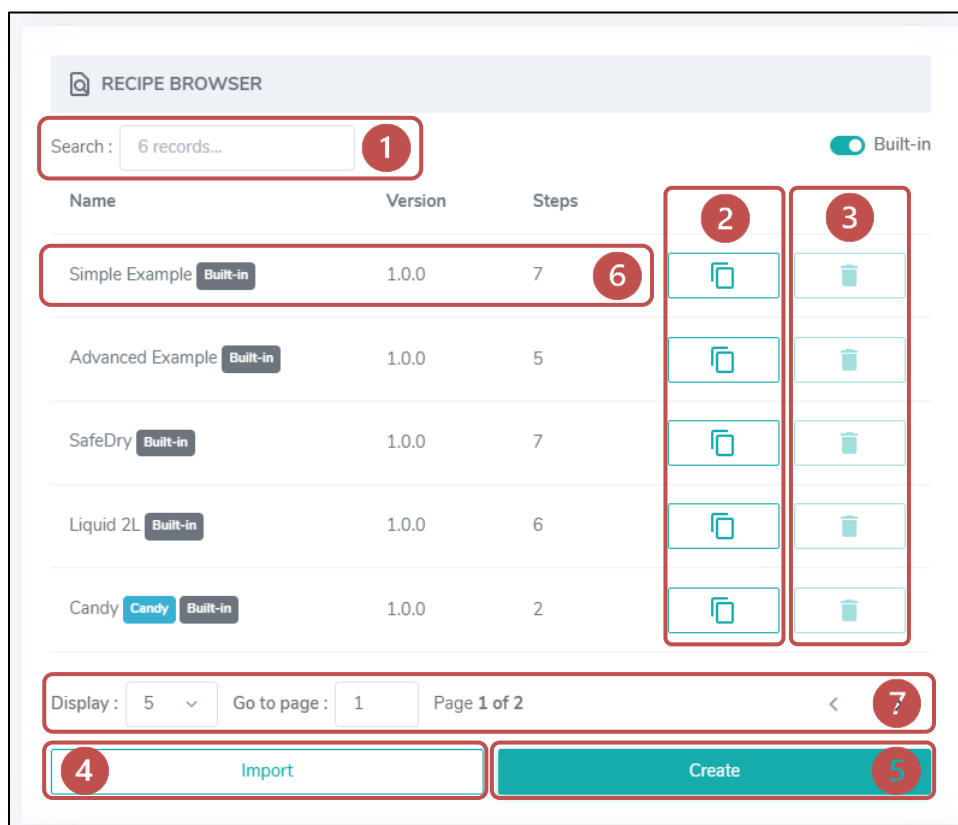

Figure 62
The Recipe Browser, located at the top of the Recipes page (Figure 62), provides basic information about recipes, including name, version, and number of steps. It also offers functionalities such as searching (1), copying (2), deleting (3), importing (4), creating (5), and editing (6) recipes.
The following explains each section of the Recipe Browser as shown in Figure 62:
From the Recipe Browser (Figure 62), tap a recipe or the “Create” button to open it in the Recipe Editor.